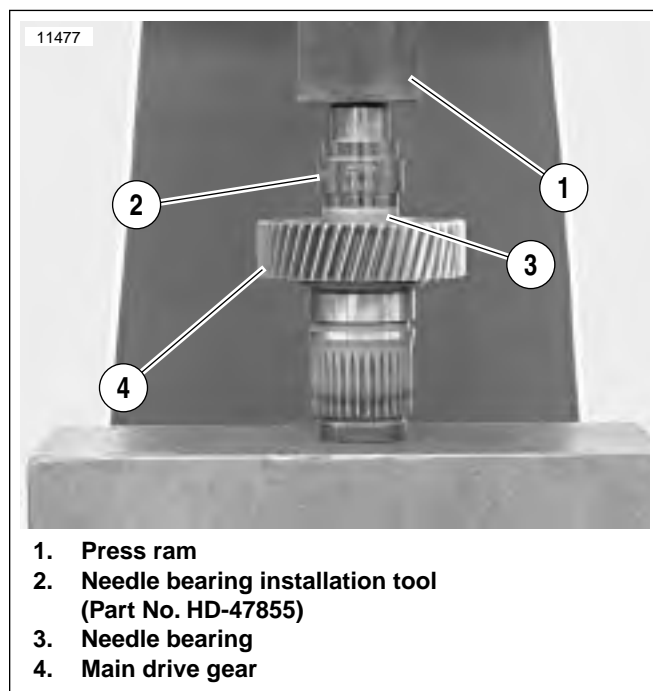

Figure 6-71. Pressing Inner Needle Bearing Assembly into Main Drive Gear
- a. See Figure 6-71. Place main drive gear (4) on press bed with gear end facing up.
- b. Place needle bearing (3) squarely into end of drive gear. Insert installation tool (2) with end stamped "INNER" facing needle bearing.